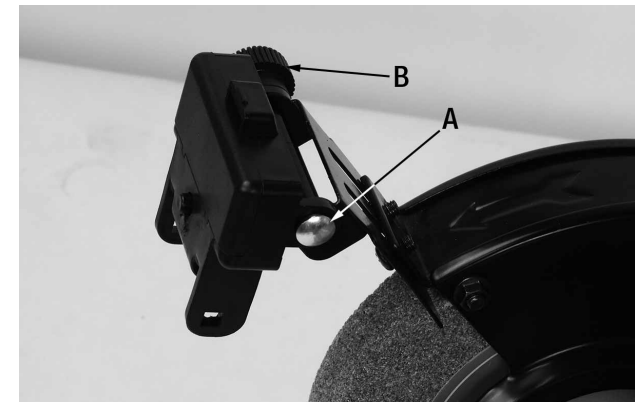

FIGURE 5
2. Insert a carriage bolt (A) Fig.5 through the spark deflector mounting holes and the bolt sleeve, secure the LED light assembly using lock knob (B). Repeat for the other side.